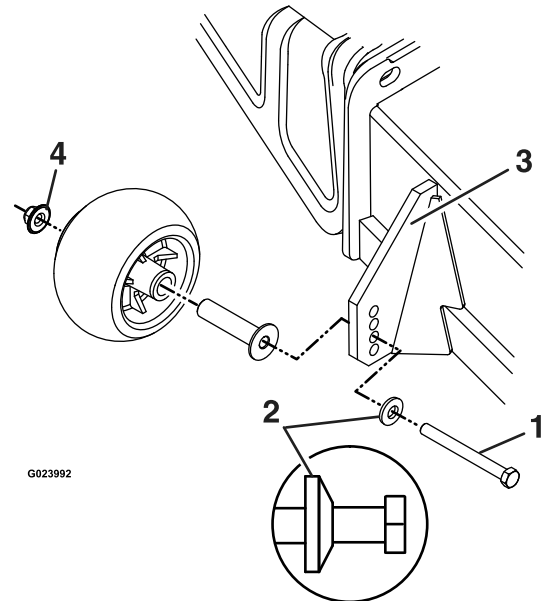

Figure 24
- Be sure the roller bolts are installed with the spring disc washer between the head of the bolt and the mounting bracket (see Figure 24).